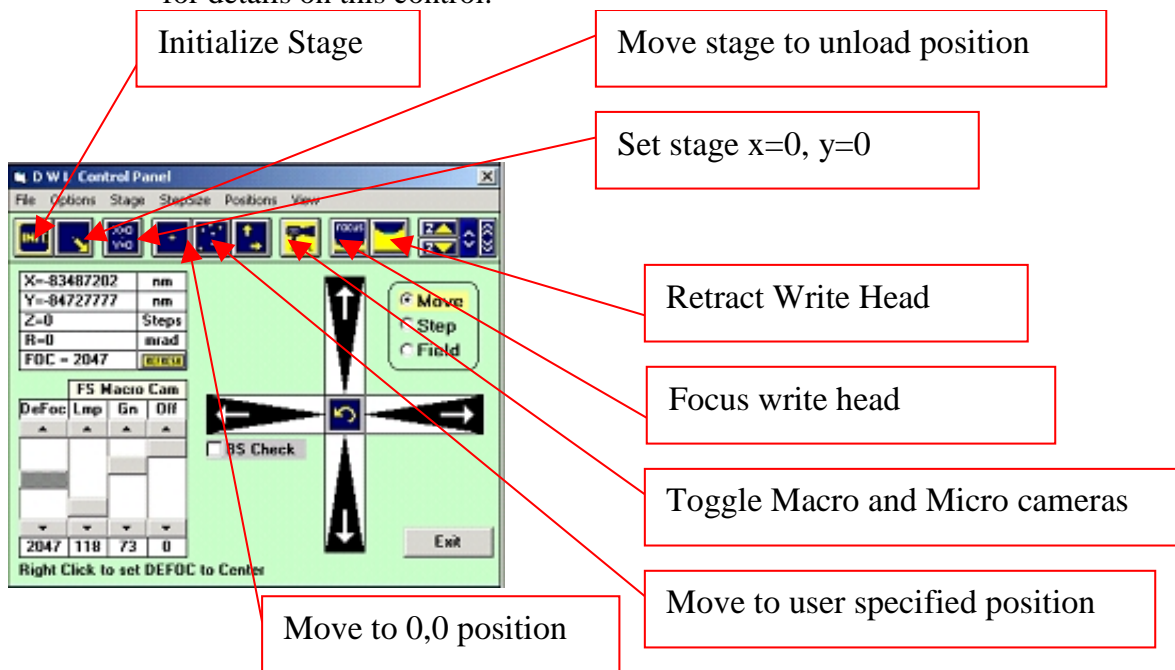

Figure 2-6: DWL Control Panel
- ❖ DWL MENU Control Panel: Click on the unload icon . See Figure 2-6 for details on this control.